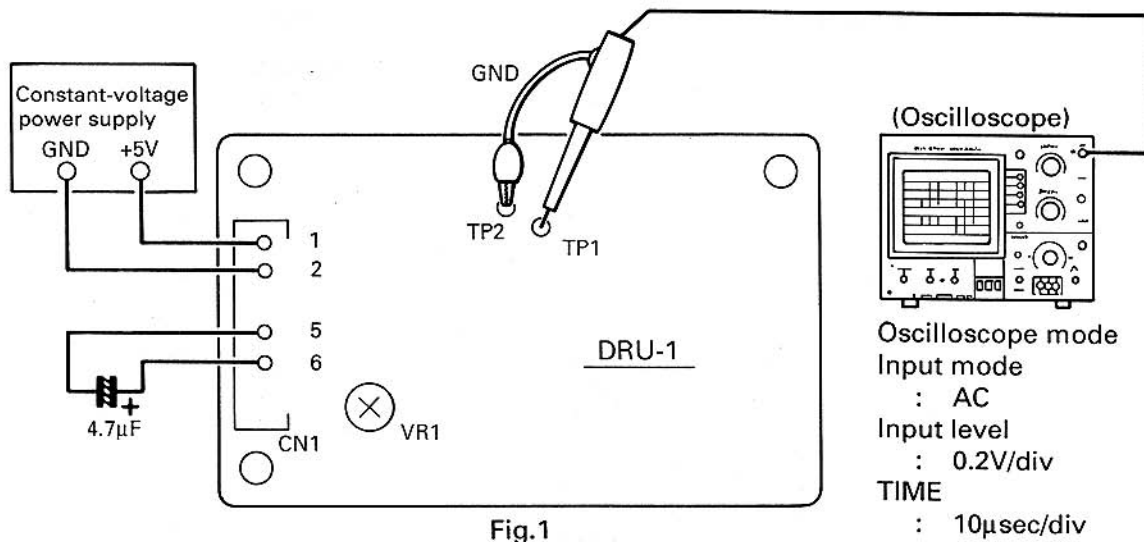

Fig.1
- 1) Connect the oscilloscope probes as shown in Fig.1.